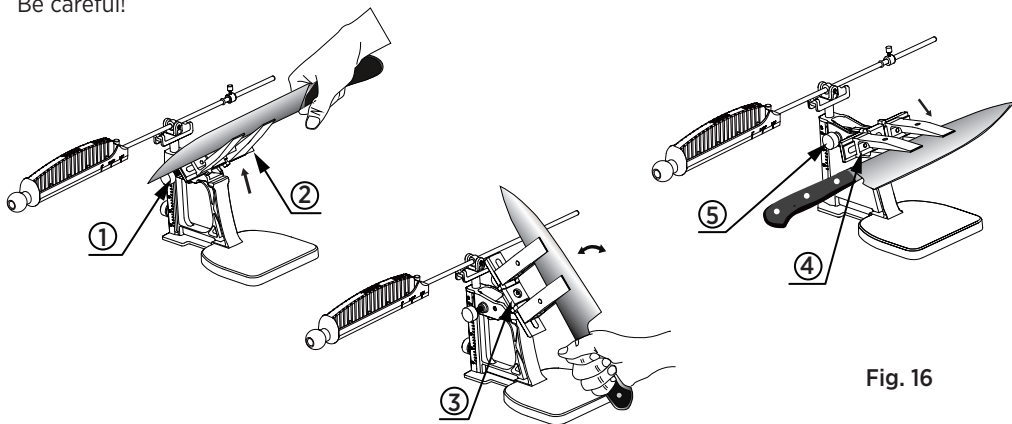

Fig. 16
3. Continue sharpening until you feel a burr along the entire edge on the opposite side of the blade. Loosen the flip knob, raise the rotary beam, and carefully rotate it 180° to switch to the opposite side of the blade. Hold the knife handle for better control during this step. Once the adjustment is complete, tighten the flip knob securely (See Fig. 16).